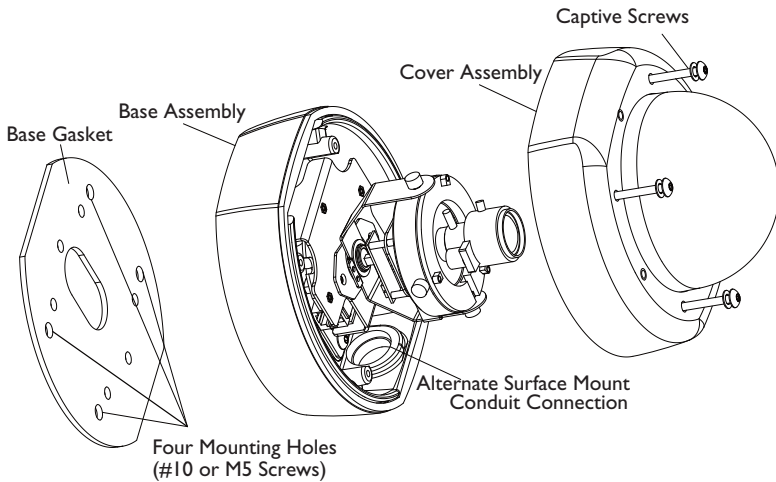

Figure 1 Cover Removal and Replacement
1. Using the special Allen wrench provided, remove the 4 tamper resistant screws located on the cover. The screws are captive and will remain with the cover. Refer to **Figure 1**.
Refer to *Figure 1*.